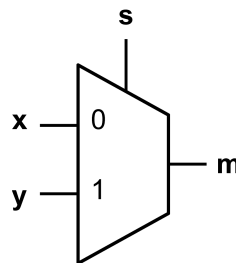
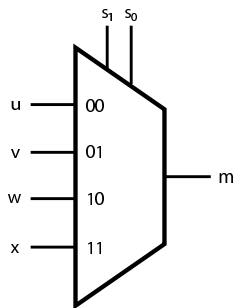

Figure 1: Symbol for a 2-to-1 multiplexer
Figure 3: Symbol for a 4-to-1 multiplexer
The schematics should show the structure of your circuit, much like the schematics in Lab 1 showed how your circuit should be built. Figure 1 and Figure 3 are examples of how to draw the schematic for multiplexers. For the schematics you will need to show the names of each input and output (in your Logisim circuits) and the switches or LEDs to which they would be mapped on the DE1-SoC board (for the top-level module).
Figure 1 shows the symbol for a 2-to-1 multiplexer. As mentioned in Lab 1, a multiplexer is a device that uses a select signal to select which one of multiple inputs should appear on the output of the device. In Figure 1, input *s* will control which of the inputs *x* and *y* will appear on the output *m*. If *s* is 0, *x* will appear on the output, while if *s* is 1, *y* will appear on the output.
Now construct a module for the 4-to-1 multiplexer shown in Figure 3 with the truth table shown in Table 1 using wires and multiple instances of the *mux2to1* module. Note that the truth table in Table 1 is given in a short-hand form. A real truth table would consist of rows enumerating all possible combinations of values of inputs u, v, w, x , in addition to s_0 and s_1 , and show the value (0 or 1) of the output m for each row of the truth table. Since this would result in a truth table with a large number of rows, it is written in short-hand form instead.
5. Map your Logisim design to the DE1-SoC board. Include a screenshot of the *Pin Mapping* window as part of your prelab. Use switches SW_{9-8} on the DE1-SoC board as the 2-bits input, and switches SW_{0-3} as the data inputs (labeled as u,v,w,x in Figure 3). Connect the output m to $LEDR_0$. **(PRELAB)**